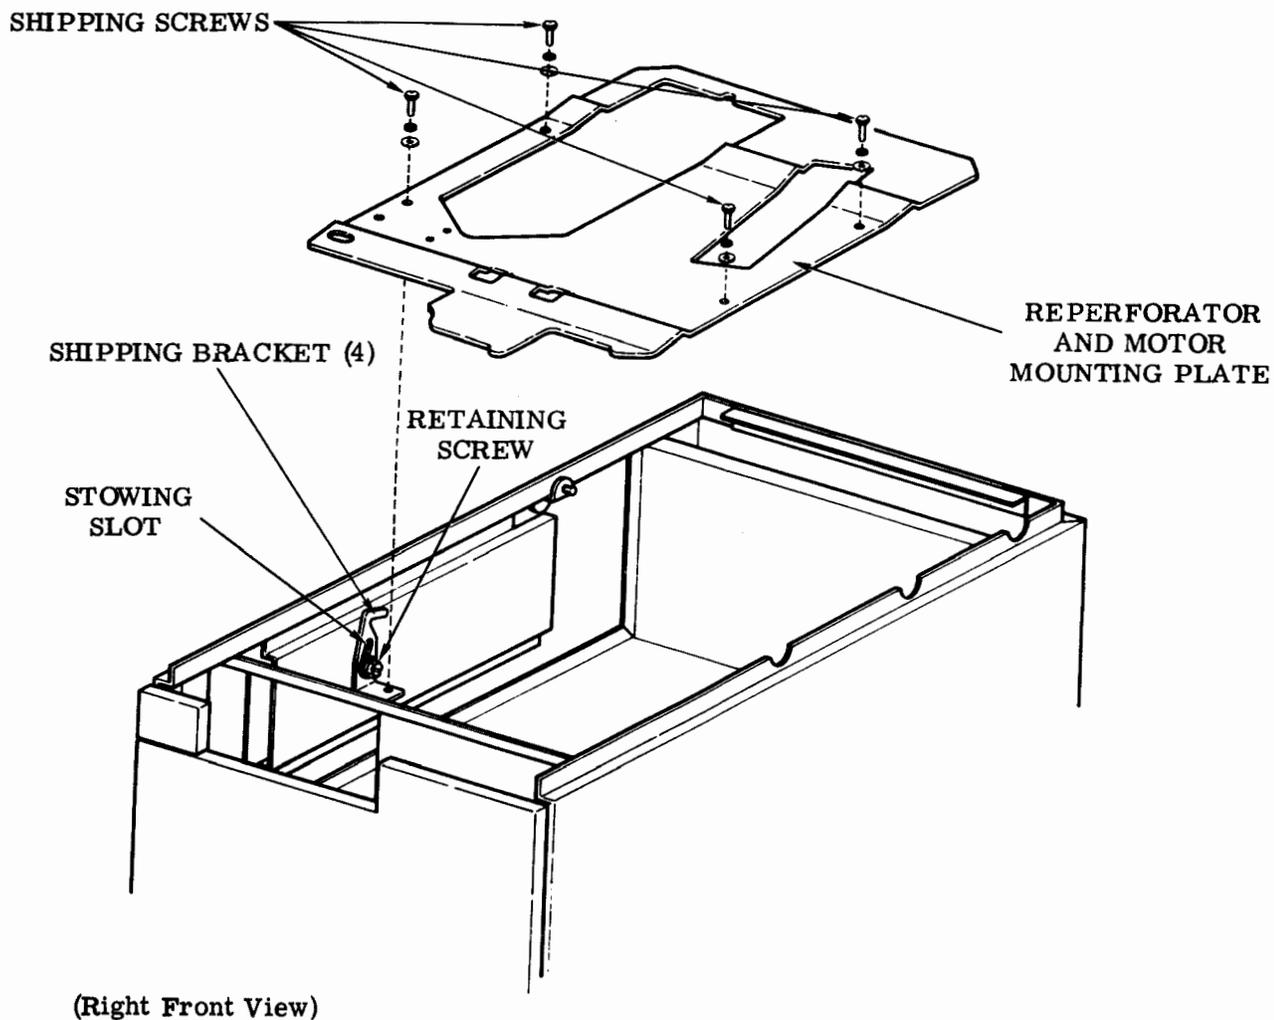

Figure 8 - Disabling Shipping Brackets RT Module
4.03 Remove the four shipping brackets from the reperforator base by the following procedure (Figure 8).